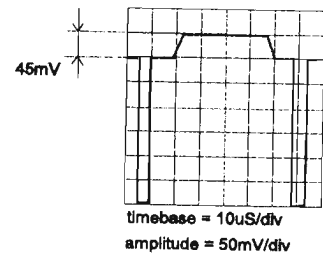

Figure 4
h) Measure VIBS, trigger external on the mid-line of WK5:MP1 and adjust the black level with WK3:P4 to 45 mV (see Figure 4).
e) Measure VIBS (WK3:MP7) with respect to 0 V (WK4:MP1), trigger external on the mid-line WK5:MP1 and adjust the black level with WK3:P4 to 45 mV (see Figure 4).